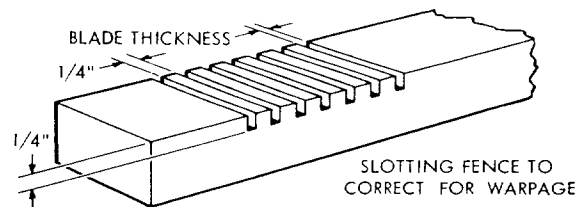

Figure 48
5. In the event that the fence is warped and cannot be straightened by tightening the table clamps proceed as follows: Remove the fence and replace with a temporary fence made from a straight piece of scrap lumber. Proceed to cut slots in the original fence where the gap between the fence and front table was determined to be the greatest. (See figure 48 for slotting.)